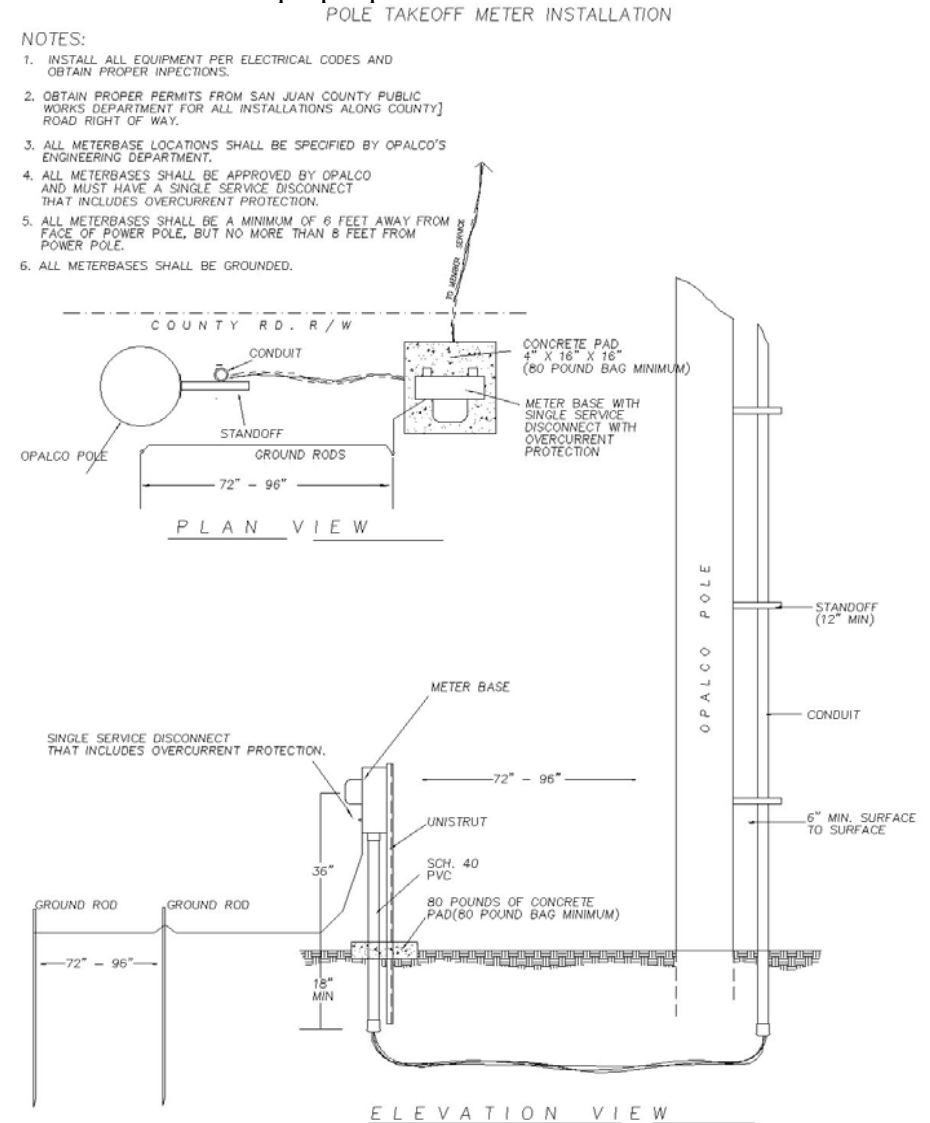

Figure 5 – Pole-Mount Transformer / Meter Installation
- installed at the transformer, as permanent and freestanding (see Figures 5 and 6) and shall maintain 36" of clearance from center of installed meter to finished grade.